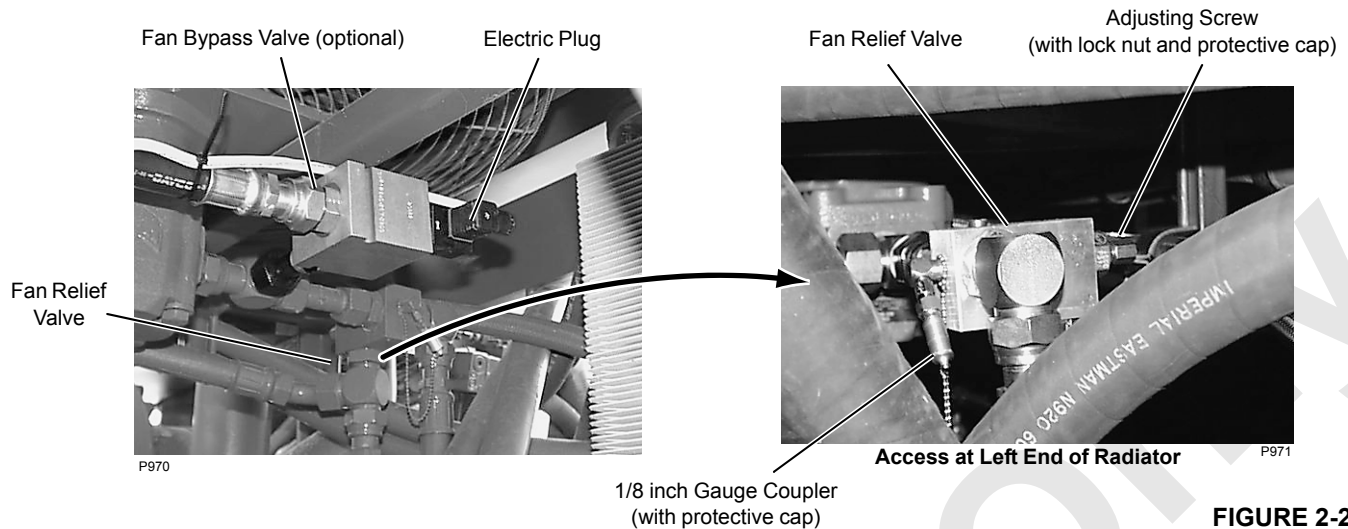
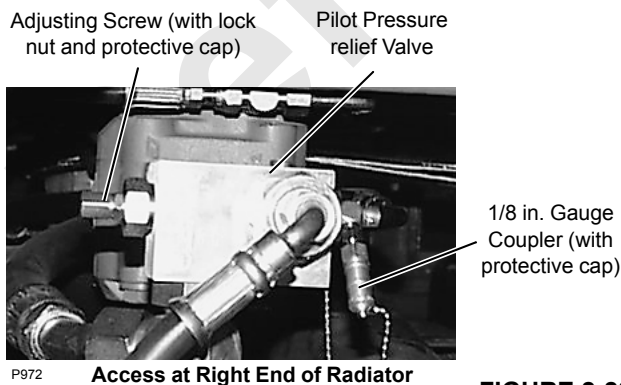

FIGURE 2-22
FIGURE 2-23
5. Remove adjusting screw from fan and pilot pressure relief valves (Figure 2-22 and Figure 2-23). Then reinstall screws approximately 1/4 in (6 mm) and securely tighten lock nuts. Serious damage can occur to system components if this step is not performed before starting engine first time.
2. If crane has cold weather option, disconnect electric plug from fan bypass valve (Figure 2-22) before starting.
- a. 0 to 5,000 psi (0 to 345 bar) at fan relief valve (Figure 2-22).
- b. 0 to 1,000 psi (0 to 69 bar) at pilot pressure relief valve (Figure 2-23).
6. With engine running at low idle, turn fan relief valve adjusting screw (Figure 2-22) in until gauge reads approximately 1,000 psi (69 bar).
7. With engine running at high idle, turn pilot pressure relief valve adjusting screw (Figure 2-23) in until gauge reads 325 to 375 psi (22,4 to 25,8 bar). Hold adjusting screw in position and securely tighten lock nut.
11. If crane has cold weather option, connect electric plug to fan bypass valve (Figure 2-22).